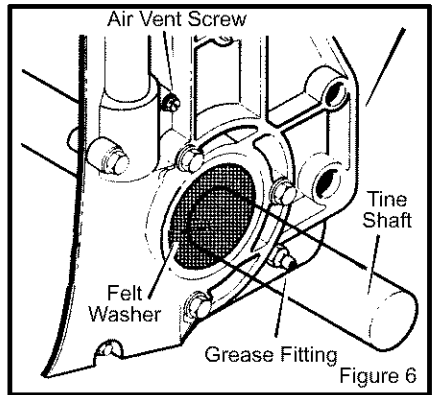

Figure 6
Every 25 hours and/or at the beginning of each season, make sure the gear box is filled with lubricant (see Figure 6). Tubes of gear lubricant are available from most automotive supply stores. Use portable tool grease such as Lubriplate 630AA (Product No. 06787, 1-3/4 oz. tube) or Lubriplate GR-132 (Product No. 15892, 10 oz. tube).
After cleaning and before storage, apply oil to the **tine shaft** (see Figure 6).
2. Remove the **air vent screw** (see Figure 6).
5. Check the condition of the **felt washer** (see Figure 6). Replace the **felt washer**